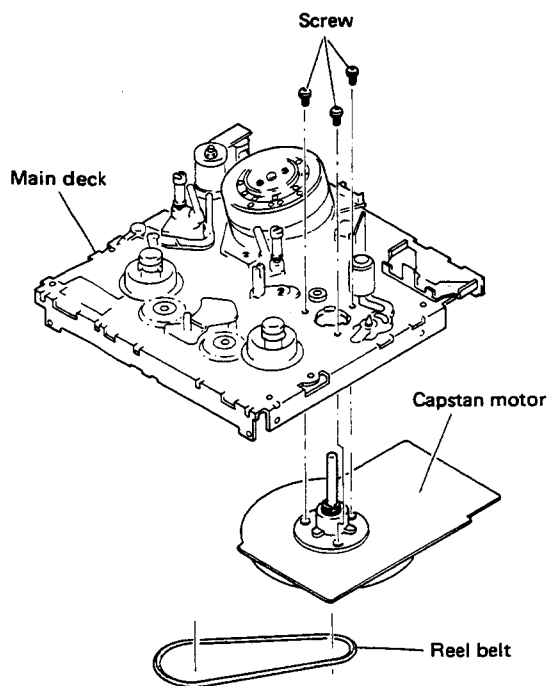

Fig. 2-9
2. Take out the main deck screws (Fig. 2-9), shift the capstan brake and remove the capstan motor.